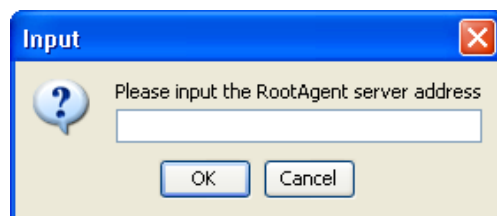

Fig. 14.2 Input Root Agent IP
2. Add one (1) Root Agent by entering the IP address for the Root Agent. (See *Figure 14.2*)